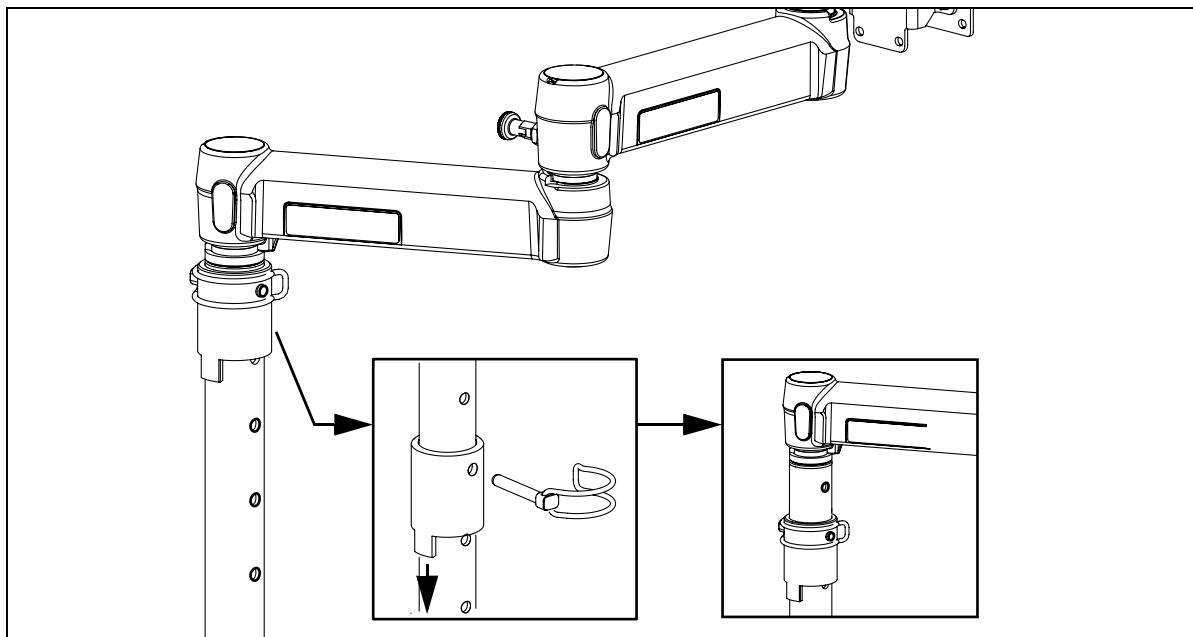

**Figure 4.8**
1. Referring to the MAJ-181 instruction manual, relocate the clamp support to another fixing hole in the support tube (see Figure 4.8) as the restrictor will be fitted through the top hole, then insert the MAJ-181 into the monitor port in the top tray of the workstation.